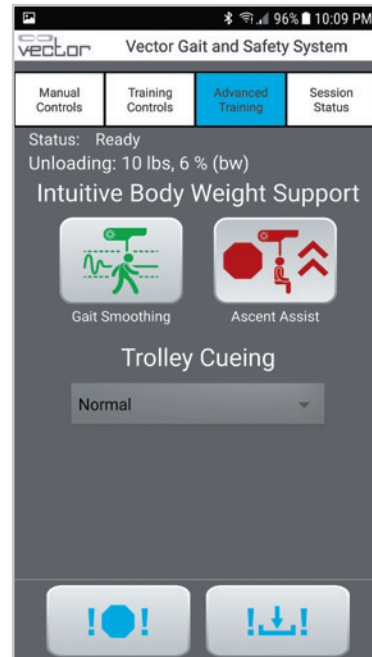

Figure 9-26
4. When Ascent Assist is enabled, the button will turn red. See Figure 9-26.